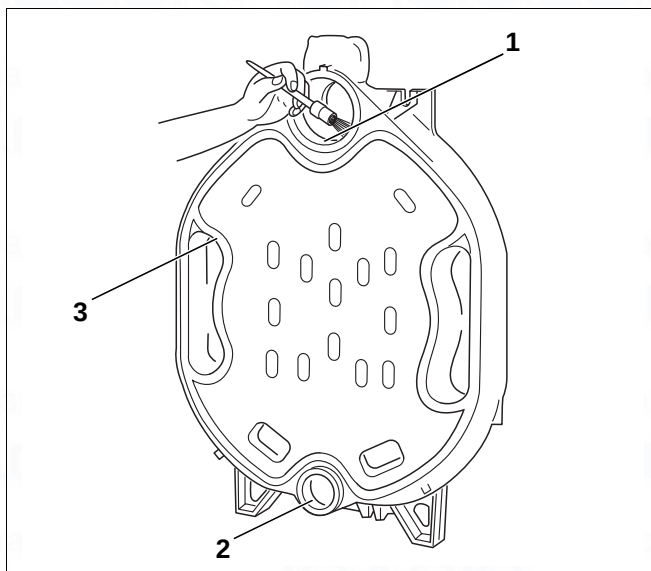

Fig. 8 Preparing packing grooves and hubs
- ▶ Clean the packing grooves where required using a wire brush and cloth (Fig. 8, [3]).
- ▶ Clean the hub sealing faces (Fig. 8, [1] and [2]) with a rag soaked in white spirit.